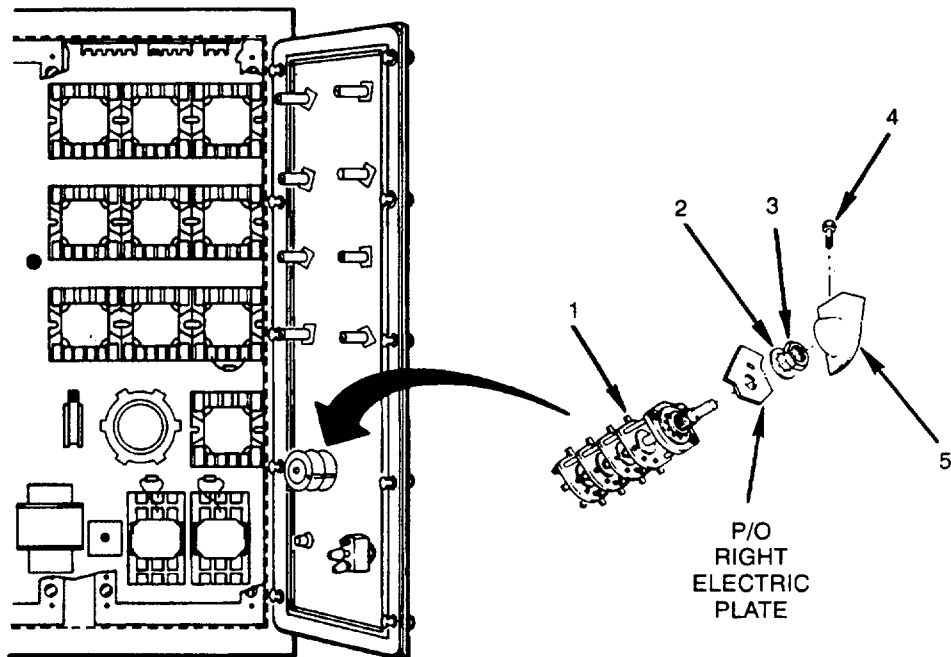

Figure 4-59. Mode Select Switch (S1)
1. Using wiring diagram (see Figure FO-3) check for loose wires or solder connections, and that leads are properly connected (see Figure 4-59).
2. Check switch (1) for smoothness of operation. Replace switch, if defective.
3. Check switch (1) for signs of overheating or other visible damage. If wires are damaged, replace as necessary.